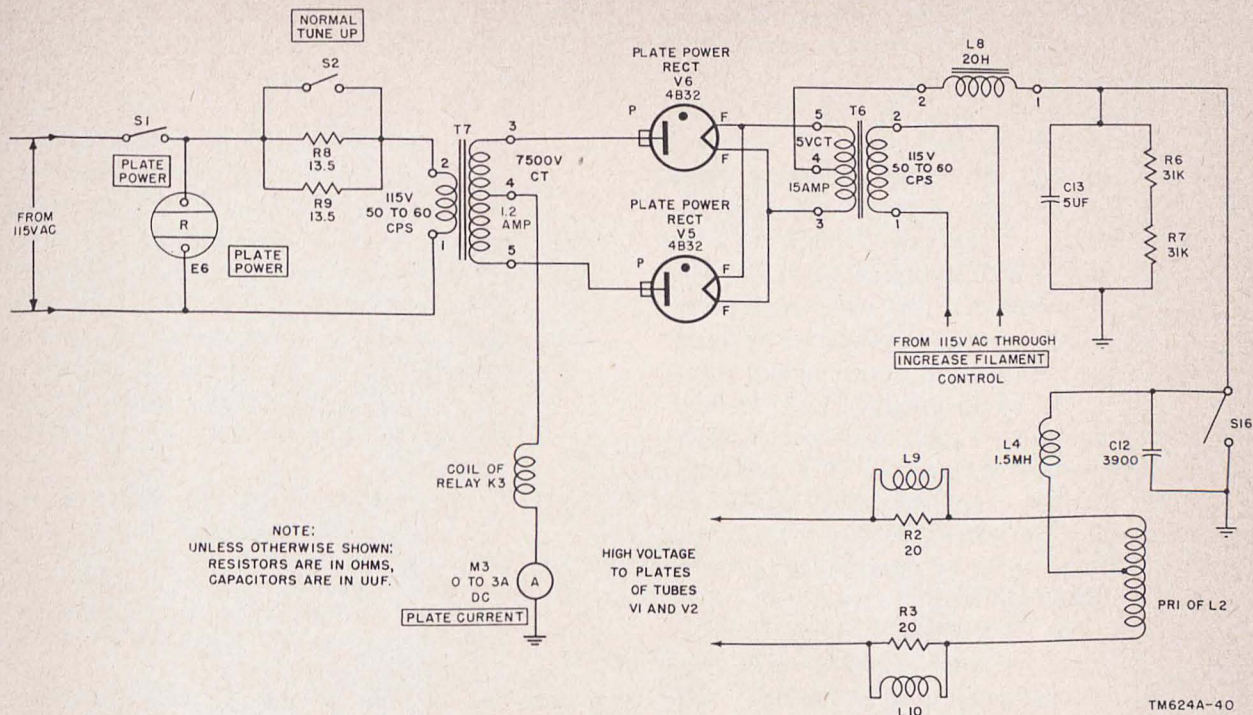

Figure 74. Amplifier AM-141(\*)/MRC, plate power supply, schematic diagram.
*b. Plate Power Supply* (fig. 74). The high-voltage plate power supply for the power amplifier consists of two gas-filled type 4B32 tubes, V5 and V6, in a full-wave rectifier circuit. The 5-volt ac filament voltage for the two rectifier tubes is supplied by transformer T6. The output of the rectifier (voltage positive with respect to ground) at the center tap of transformer T6 is filtered by a choke-input filter that consists of choke L8 and capacitor C13. Resistors R6 and R7 make up the bleeder circuit between B+ and ground. Transformer T7 supplies plate voltage to the rectifier tubes, and its center tap is connected to ground through the coil of overload relay K3 and PLATE CURRENT meter M3. The total plate current of tubes V1 and V2 and the bleeder current
b. *Plate Power Supply* (fig. 74). The high-voltage plate power supply for the power amplifier consists of two gas-filled type 4B32 tubes, V5 and V6, in a full-wave rectifier circuit. The 5-volt ac filament voltage for the two rectifier tubes is supplied by transformer T6. The output of the rectifier (voltage positive with respect to ground) at the center tap of transformer T6 is filtered by a choke-input filter that consists of choke L8 and capacitor C13. Resistors R6 and R7 make up the bleeder circuit between B+ and ground. Transformer T7 supplies plate voltage to the rectifier tubes, and its center tap is connected to ground through the coil of overload relay K3 and PLATE CURRENT meter M3. The total plate current of tubes V1 and V2 and the bleeder current
- (1) Plate overload relay K3, part of the high-voltage power supply dc circuit (fig. 74), protects the amplifier tubes and the power supply against any overload